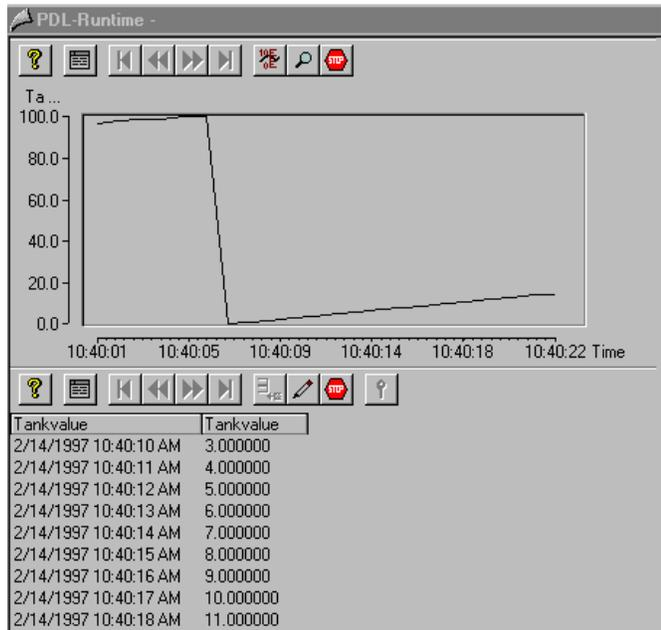

Figure 7.15 WinCC Project "QckStart"; Viewing the Runtime Screens Simultaneously
6. After Runtime is started, view the two Runtime Screens simultaneously. See Figures 7.15 and 7.16.